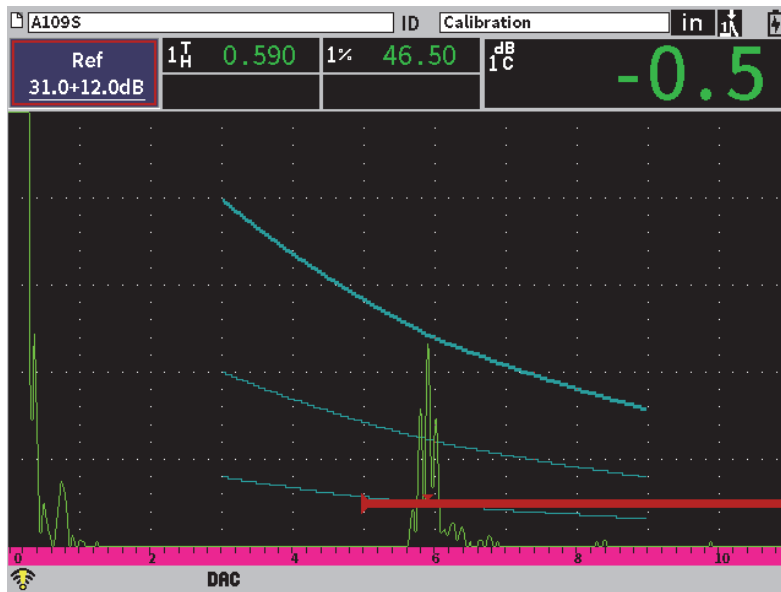

Figure 11-6 Completed DAC curve
9. Repeat steps 6, 7, and 8 until you are finished building your curve (see Figure 11-6 on page 180).